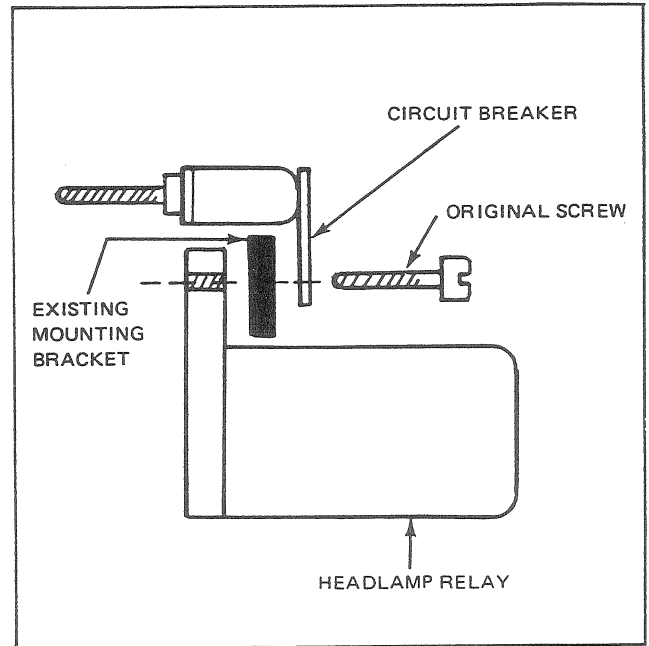

Fig. 17 — Article No. 116
48. Place circuit breaker in position at forward screw hole with terminals facing rearward and install circuit breaker and headlamp relay to mounting bracket original screw. (See Fig. 17)